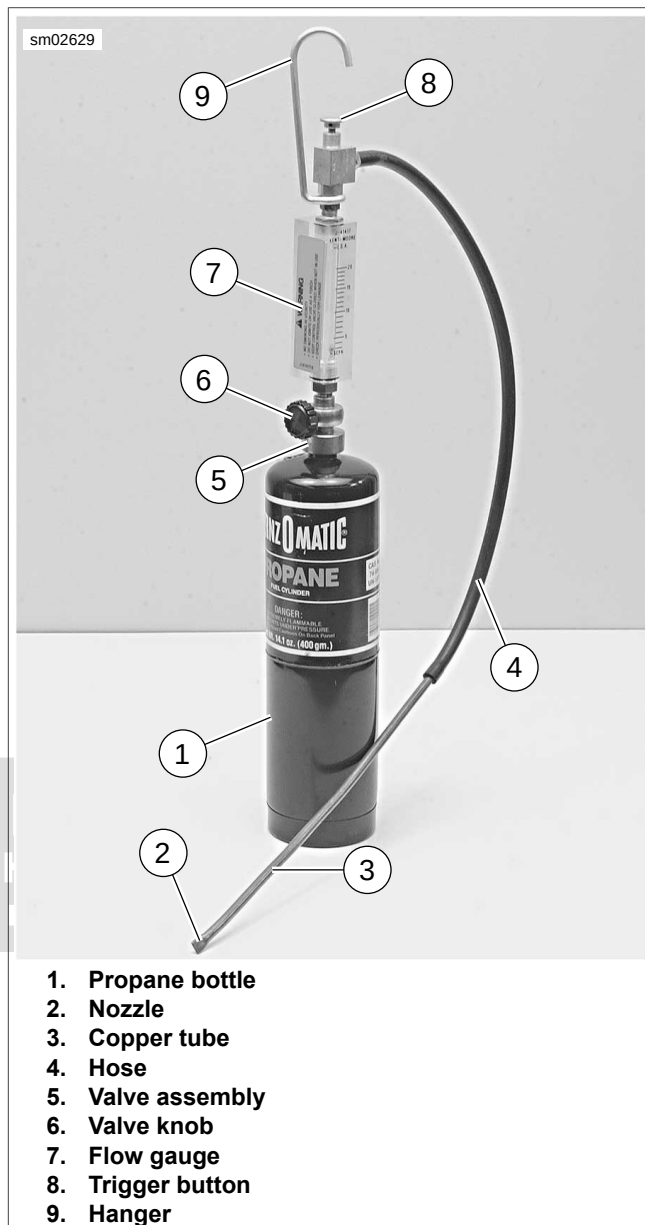

Figure 4-84. Leak Tester
- See Figure 4-84. Make sure valve knob (6) is closed (fully clockwise).
- Screw valve assembly (5) onto propane bottle (1).
- See Figure 4-84. Press and hold trigger button (8).
- Slowly open valve knob (6) until pellet in flow gauge (7) rises 5-10 SCFH on gauge.